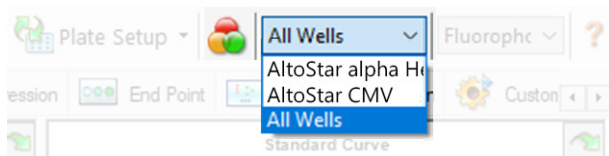

Figure 4: Well Group button and Well Group drop-down menu
In the Data Analysis window ensure to select the **Well Group** of the AltoStar® *alpha* Herpesvirus PCR Kit 1.5. Therefore, click on the **Well Group** drop-down menu right next to the **Well Group** button (see figure 4) of the toolbar. Do not use the “All Wells” **Well Group**. The selection in figure 4 is used as a general example view.
1. In the Data Analysis window ensure to select the **Well Group** of the AltoStar® *alpha* Herpesvirus PCR Kit 1.5. Therefore, click on the **Well Group** drop-down menu right next to the **Well Group** button (see figure 4) of the toolbar.